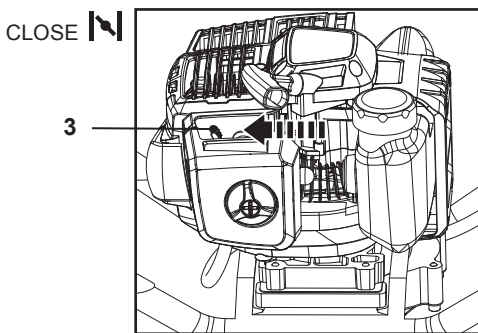

Fig. 6
1. Push the choke lever (3) all the way to the left (Fig. 6), the choke is now at CLOSE position.